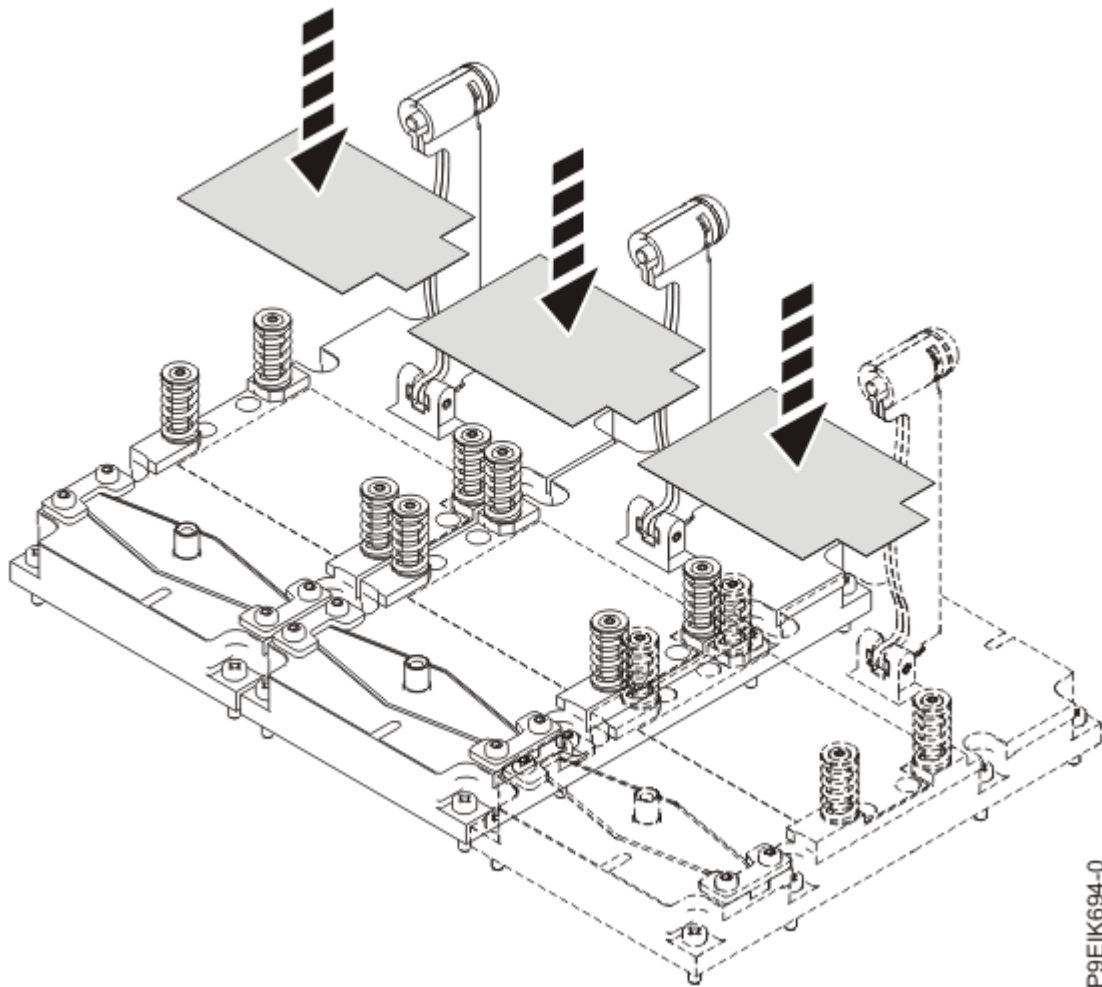

Figure 50. Installing GPU TIMs
a) Check that the new GPU TIMs are squarely placed on the GPUs as shown in Figure 50 on page 52.